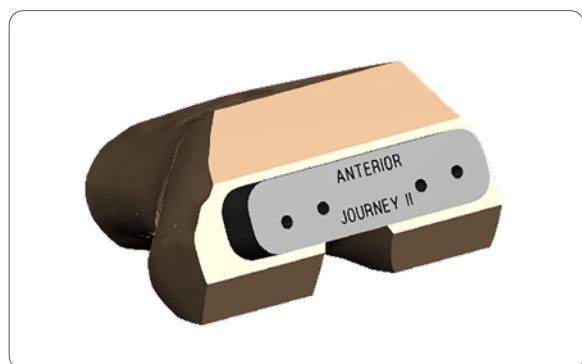

Figure 111
1. Attach the downsizing drill guide to the cut femur, placing the spikes on the back of the plate into the same location holes used for the A/P cutting block (**Figure 111**).